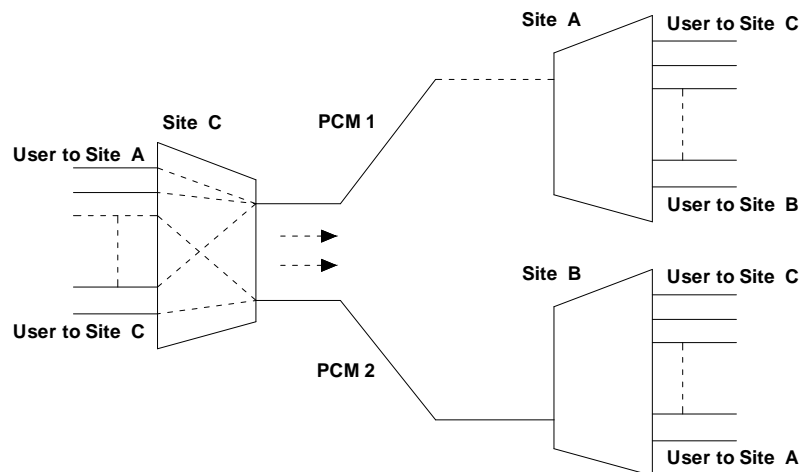

Fig. 1.4 Data-link operations
2. Dual link operation: Two E1 links can be connected to V MUX; it is possible to have two partially filled E1 links. Cards installed in this system can be freely assigned time slots on either of two links without any restrictions. The user ports can be mapped to either or both of the PCM time slots resulting in two partially filled E1trunks. Please refer fig. 1.4 showing data-link operation